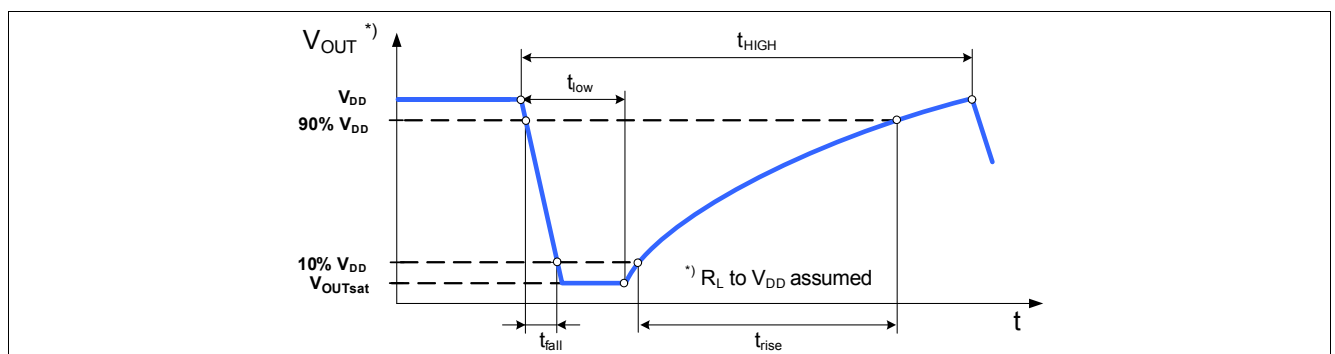

Figure 5-1 Output Characteristic
- 6) Depends on External R_{L} and C_{L} , See Figure 5-1